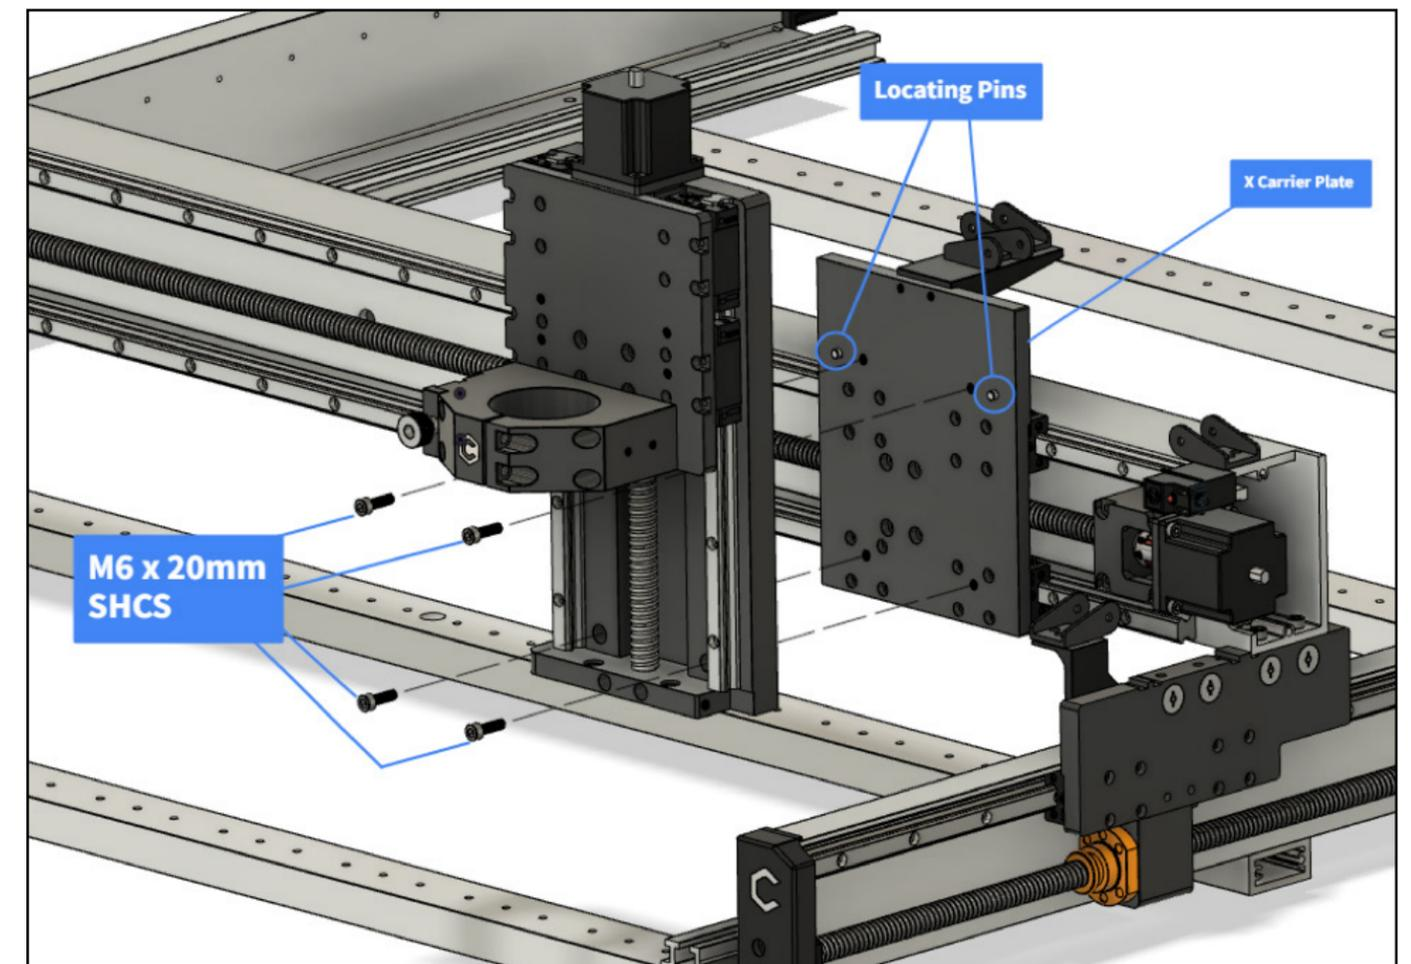

Figure 2-1
3. Align the HDZ with the two short locating pins on the front of the X-Axis carrier plate and push it onto the carrier plate. See **Fig. 2-1**.
4. Hold the HDZ in place as you loosely insert four (4) M6×20mm SHCS. See **Fig. 2-1**.